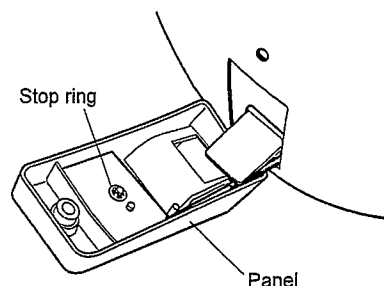

Fig. C-1
2. Remove the stop ring holding the lamp assembly and take off the lamp assembly from the panel. (Fig. C-1)